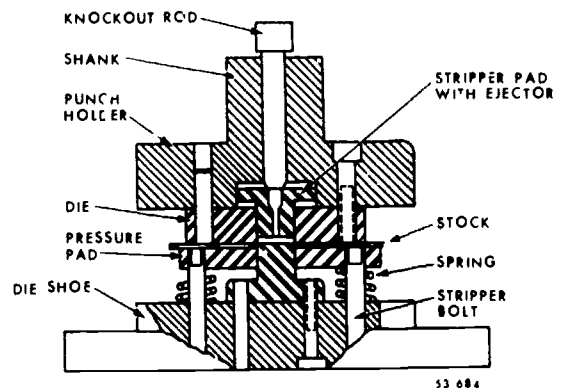

Figure 1-27. Inverted die
**Types of Dies and Their Design.** Three general types of dies exist, having many possible variations. These three general types are: (1) inverted, (2) progressive, and (3) compound dies. We will discuss these in the following paragraphs.
**Inverted.** As its name implies, in an "inverted die," the punch is mounted in the die shoe; and the die is carried in the punch holder. This arrangement is advantageous in blanking thin stock. The inverted die lessens the possibility of bending the blank. Figure 1-27 illustrates the action and arrangement of an inverted die set. In the standard die set, the blanks may become crowded in the die cavity and cause a jam. This is especially true if the press is working at maximum capacity. Instead of forcing the blank through the die, the inverted die is so arranged that the blank is removed by a knockout pin as soon as it is cut. A very important advantage of the inverted die is that the stripper and ejector keep cutting edges free of chips, and the edges need less regrinding. Note, however, that inverted dies are relatively high at first cost.